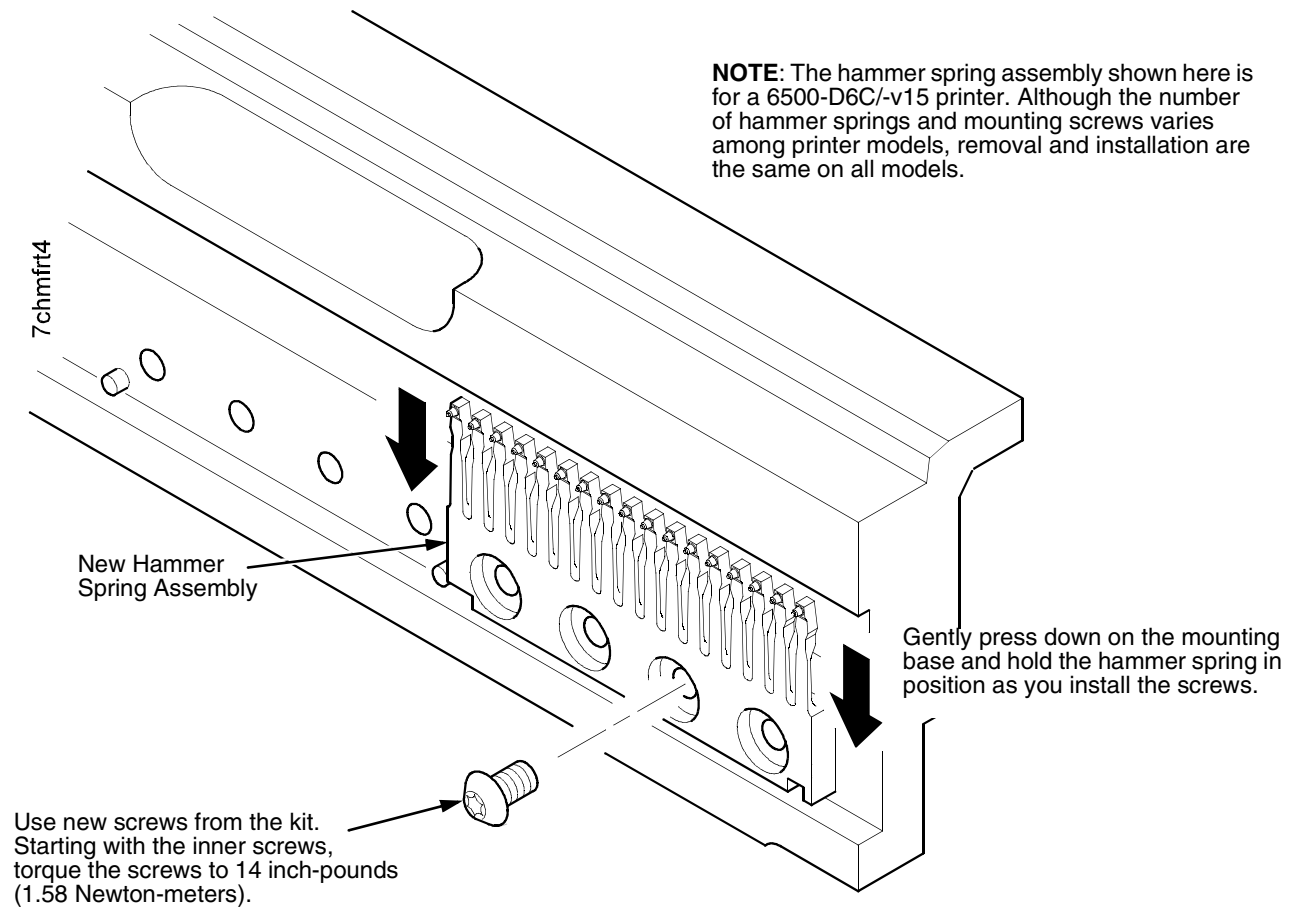

Figure 17. This figure shows how to install a hammer spring assembly onto the hammer bank.
3. Handling the hammer spring assembly by the mounting base only, carefully position it on the hammer bank mounting pins. then gently press the mounting base down against the alignment pins. (See Figure 17, page 353.)
4. Continue pressing down on the mounting base of the the new hammer spring assembly as you install the mounting screws from the replacement kit. Using a Torx T-10 bit adapter, torque each screw to 14 inch-pounds (1.58 N•m). Tighten the center screw(s) first. (See Figure 17, page 353.)